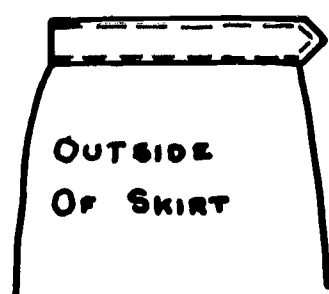

Figure 40.
- a. A heavy weight fabric or a tailored garment may be finished by top stitching both the upper and lower edges of the waistband (see Figure 40).